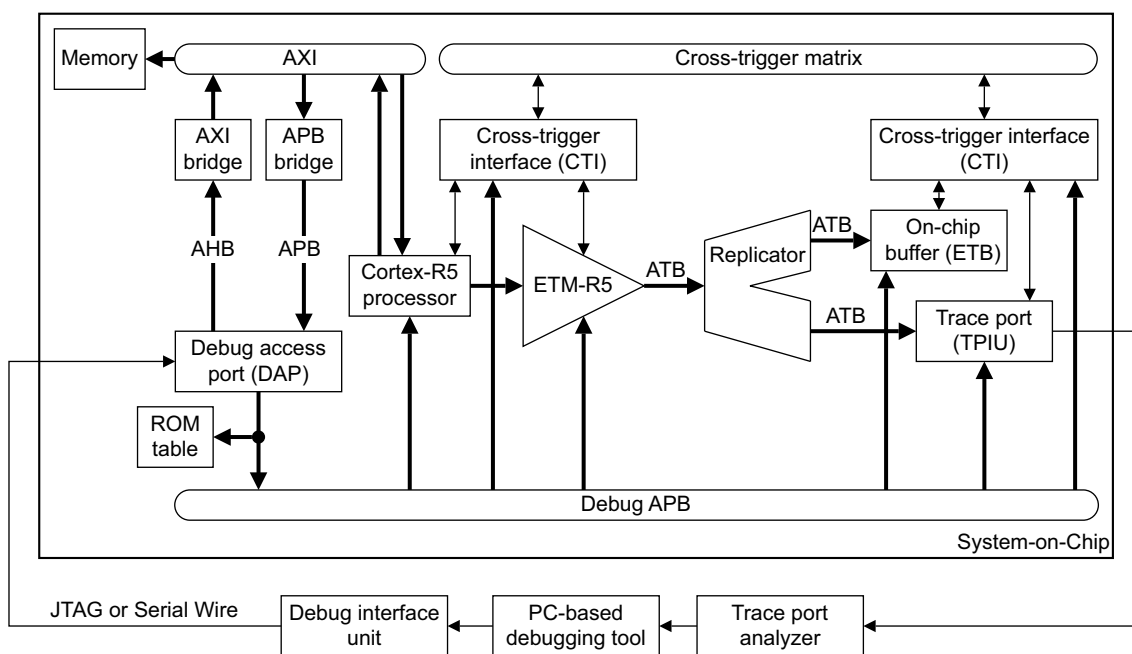

Figure 1-1 ETM-R5 macrocell system diagram
- Export the trace information through a trace port. An external *Trace Port Analyzer* (TPA) captures the trace information as Figure 1-1 on page 1-3 shows.
- Write the trace information directly to an on-chip *Embedded Trace Buffer* (ETB). You can read out the trace at low speed using a JTAG or Serial Wire interface when the trace capture is complete as Figure 1-1 on page 1-3 shows.
Figure 1-1 shows how the ETM-R5 macrocell fits into a CoreSight debug environment to provide full trace capabilities in a single processor system. The external debug software configures the trace and debug components through the *Debug Access Port (DAP)*. The ROM table contains a unique identification code for the *System on Chip (SoC)* and the base addresses of the components connected to the debug APB. The trace stream from the ETM-R5 macrocell is replicated to provide on-chip storage using the CoreSight ETB or output off-chip using the TPIU. Cross-triggering operates through the *Cross-Trigger Interface (CTI)*s and the cross-trigger matrix.
In Figure 1-1, the arrows on the thick lines show the transaction direction on busses, from master to slave port. Each bus contains individual signals that go from master to slave and other signals that go from slave to master.